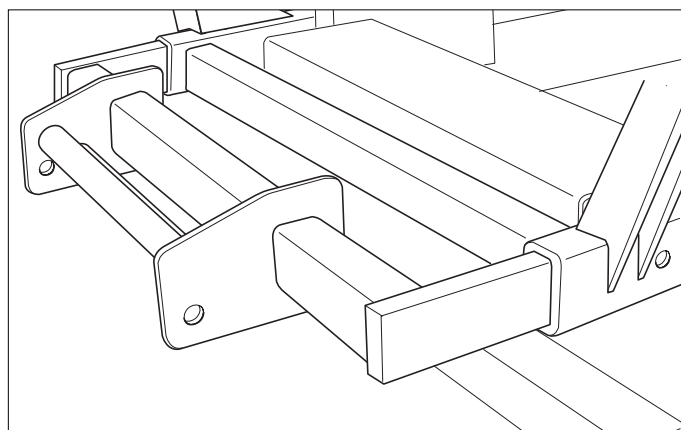

Figure 46. Weight Rack Installation
3. Slide the weight mount rack into the main frame tubes and align with the holes drilled through the frame (see Figure 46). It may require you drive the arms into the frame tubes using a wooden block and hammer.